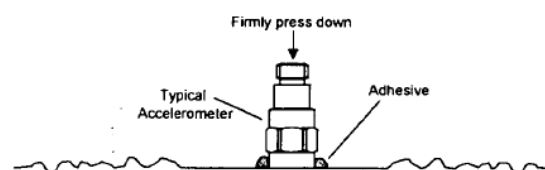

Figure 8. Direct Adhesive Mounting
STEP 2: Place a small portion of adhesive on the underside of the sensor. Firmly press down on the top of the assembly to displace any adhesive. Be aware that excessive amounts of adhesive can make sensor removal difficult. See Figure 8.